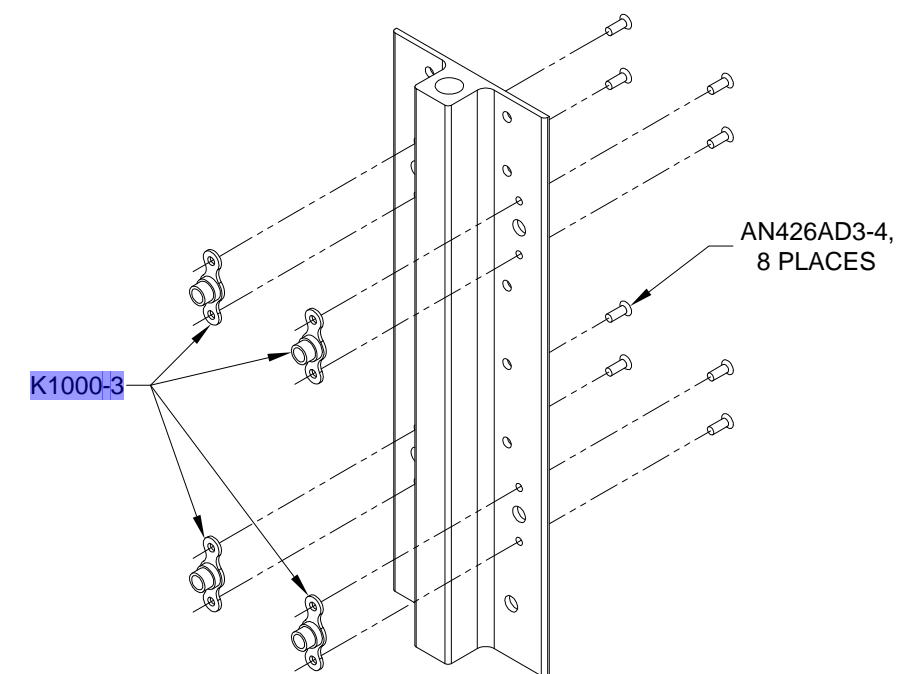

FIGURE 4:
Step 8: Remove the W-1020 Tie-Down Bracket from the W-SPAR ASSY-L Spar Assembly - Left. Using a #40 bit, match-drill the nutplate attach rivet holes in the W-1020 Tie-Down Bracket as shown in Figure 4. Use the nutplates as drill guides for properly locating the holes.
Step 9: Machine countersink the aft side of the W-1020 Tie-Down Bracket for the heads of the nutplate attach rivets. See Figure 4. Deburr all holes in the tie-down bracket.
Step 11: Rivet nutplates to the W-1020 Tie-Down Bracket as shown in Figure 4.